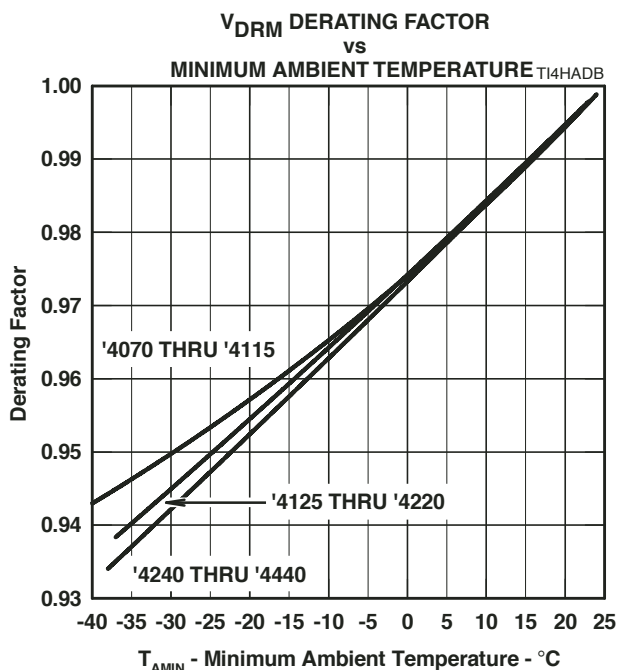
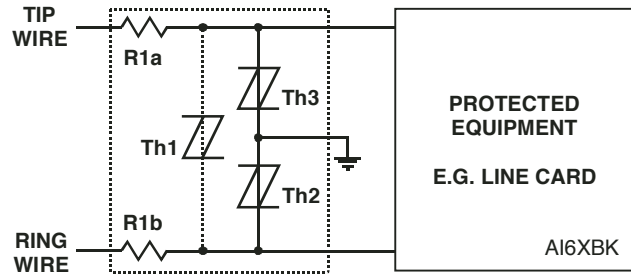
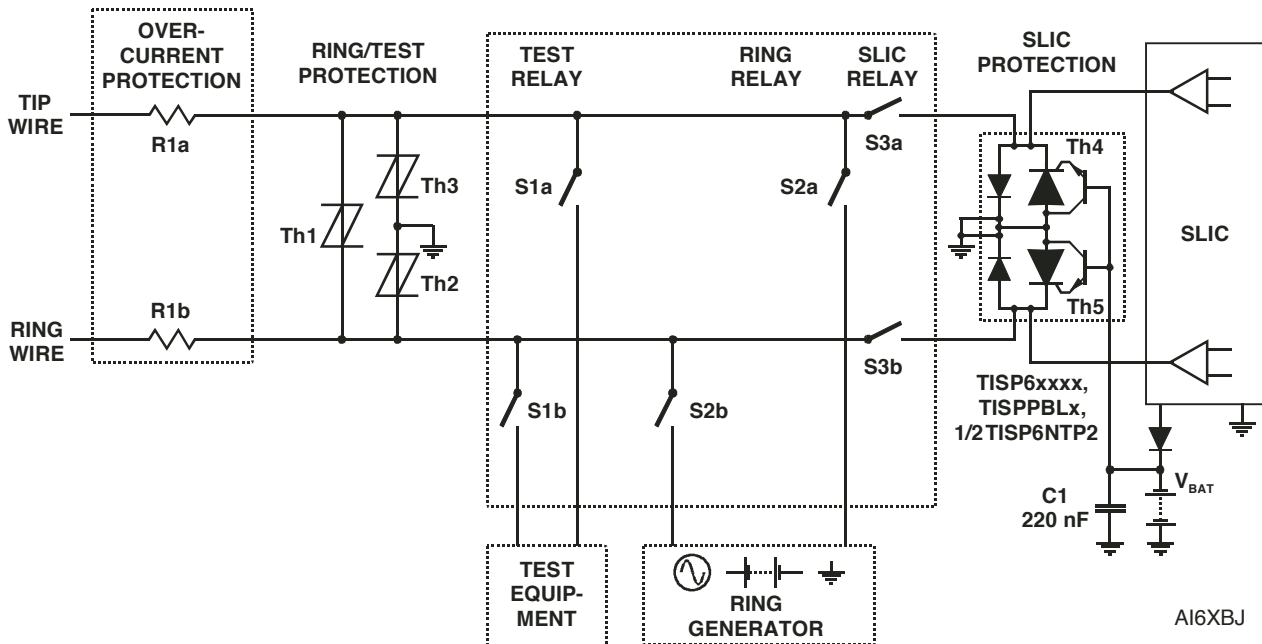

Figure 10.
Figure 15. Protection Module
Figure 17. Line Card Ring/Test Protection
- NOTES: 1. See Applications Information and Figure 10 for voltage values at lower temperatures.
The protector characteristic off-state capacitance values are given for d.c. bias voltage, V_D , values of 0, -1 V, -2 V and -50 V. Where possible, values are also given for -100 V. Values for other voltages may be calculated by multiplying the $V_D = 0$ capacitance value by the factor given in Figure 6. Up to 10 MHz, the capacitance is essentially independent of frequency. Above 10 MHz, the effective capacitance is strongly dependent on connection inductance. In many applications, such as Figure 15 and Figure 17, the typical conductor bias voltages will be about -2 V and -50 V. Figure 7 shows the differential (line unbalance) capacitance caused by biasing one protector at -2 V and the other at -50 V.
Figure 10 allows the calculation of the protector V_{DRM} value at temperatures below 25 °C. The calculated value should not be less than the maximum normal system voltages. The TISP4265H3BJ, with a V_{DRM} of 200 V, can be used for the protection of ring generators producing 100 V r.m.s. of ring on a battery voltage of -58 V (Th2 and Th3 in Figure 17). The peak ring voltage will be $58 + 1.414 \times 100 = 199.4$ V. However, this is the open circuit voltage and the connection of the line, and its equipment will reduce the peak voltage. In the extreme case of an unconnected line, clipping the peak voltage to 190 V should not activate the ring trip. This level of clipping would occur at the temperature when the V_{DRM} has reduced to $190/200 = 0.95$ of its 25 °C value. Figure 10 shows that this condition will occur at an ambient temperature of -22 °C. In this example, the TISP4265H3BJ will allow normal equipment operation provided that the minimum expected ambient temperature does not fall below -22 °C.